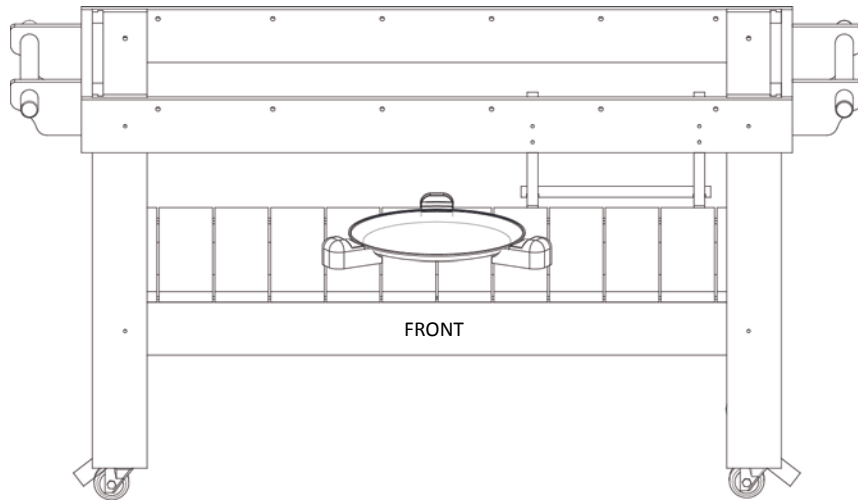

Figure 10
**STEP 3** Place the three ceramic grill feet on the bottom shelf of the grill table to form a triangle  $\triangle$  with the top being the back of the grill table. The other two feet should be placed just to the left and right of the bottom vent door. Place the Heat Shield pan over the three ceramic grill feet. (See Figure 10)